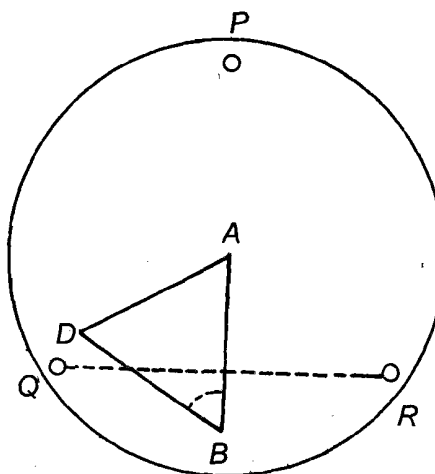

Fig.5.3: Mounting the prism for measurement of its angle
1. Mount the prism on the prism table in such a way that its refracting edge A lies over the centre of the prism table and the face AB is normal to the line joining levelling screws Q and R , as shown in Fig.5.3.